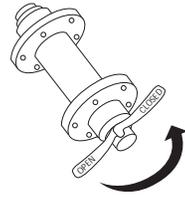

fig. 1
2. Move the quick release lever to the OPEN position and set the wheel so it seats firmly at the end of the frame or fork tips. [fig. 1]